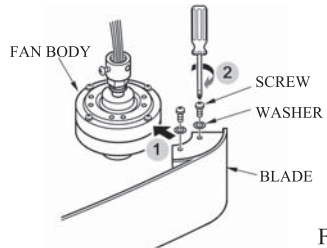

FIG.1
1. Locate the blade onto the fan body. Align the screw hole of blade with motor and secure the blade screw and washer to fix the blade with fan body. (See Fig.1)